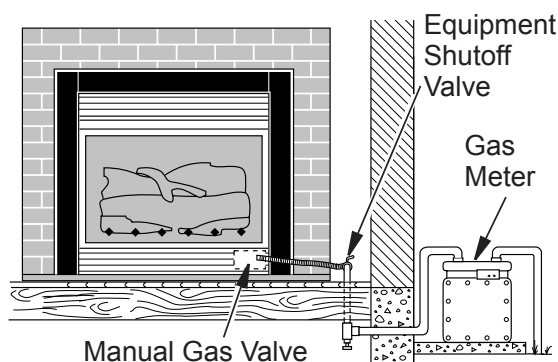
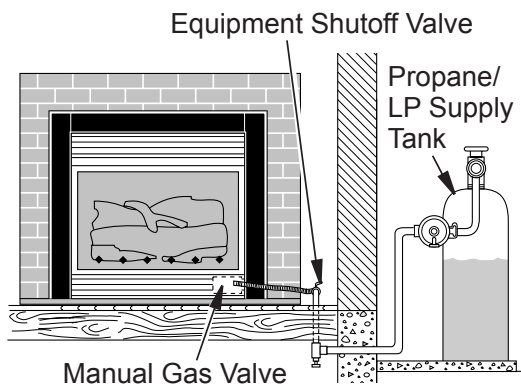

Figure 18 - Checking Gas Joints (Natural Gas)
Figure 19 - Checking Gas Joints (Propane/LP Gas)
3. Check all joints from gas meter to equipment shutoff valve for natural gas (see Figure 18, page 13) or propane/LP supply to equipment shutoff valve for propane/LP (see Figure 19, page 13). Apply a noncorrosive leak detection fluid to all joints. Bubbles forming show a leak.
4. Check all joints from gas meter to equipment shutoff valve for natural gas (see Figure 18) or propane/LP supply to equipment shutoff valve for propane/LP (see Figure 19). Apply a noncorrosive leak detection fluid to all joints. Bubbles forming show a leak.